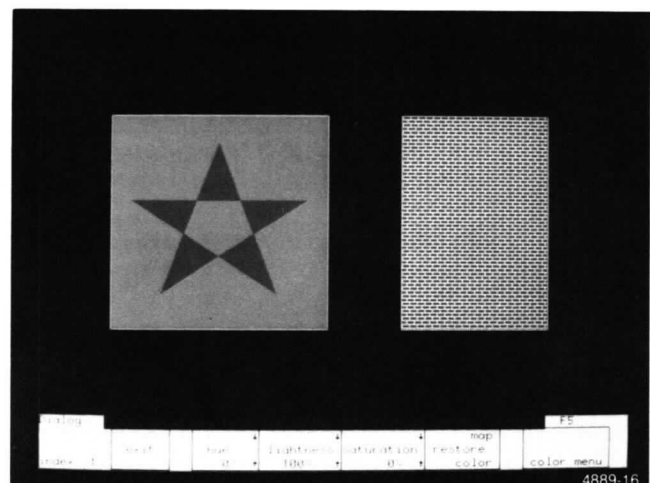

Figure 3-11. Color Interface Banner.
Now take a few moments to examine the white banner at the bottom of the screen (Figure 3-11). The left part of the banner indicates that the cursor is in the *graphics* area. It also displays a small square of the color under the color index (4).